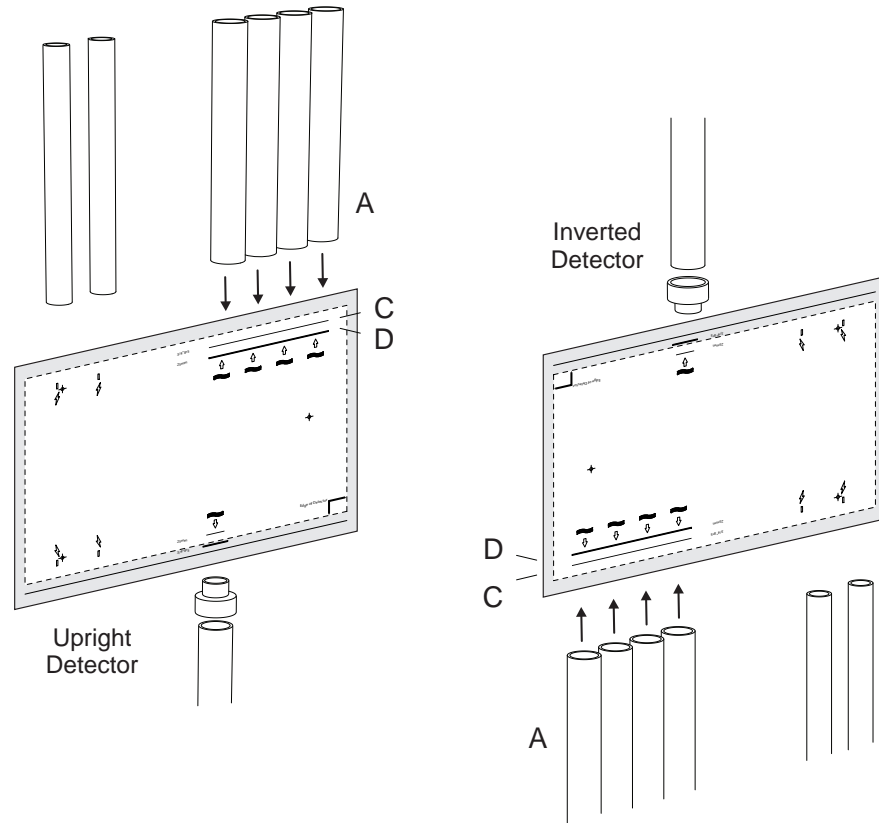

Figure 4-23: Position mounting template
- Position the mounting template to allow sampling pipes (A) to horizontally line up with the alignment marks (B) and vertically align with the appropriate pipe depth line (Figure 4-23):
- 3/4 inch IPS pipe (1.05 inch OD) should vertically align with the top depth line (C).
- 25mm pipe should vertically align with the bottom depth line (D).